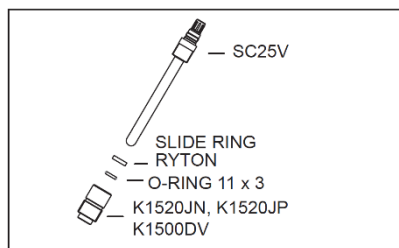

Figure 5: PG13.5 => M25 adapter
- For mounting in Yokogawa fittings, a PG13.5 to M25 adapter is available in different materials (see fig 5). More information in chapter 7.